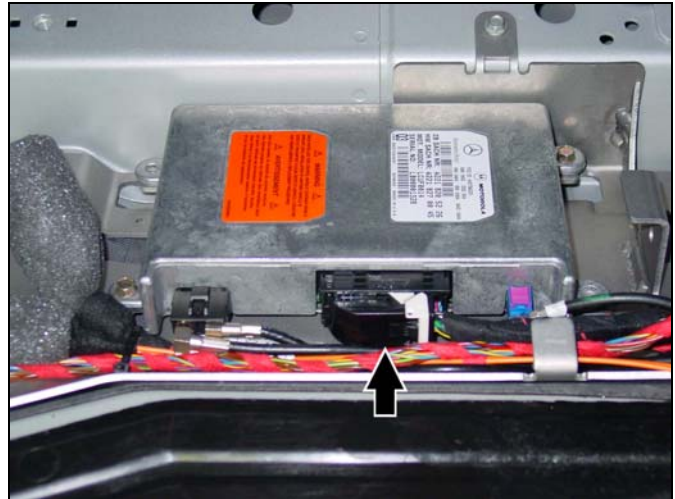

Figure 28
1. At the left side of the exposed electronics compartment at the front of the trunk, disconnect the Tele Aid power supply connector from the Tele Aid control module (Figure 28).